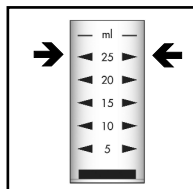

Figure 1
1. Fill the sample cup to the 25 mL mark with the sample to be tested (fig 1).